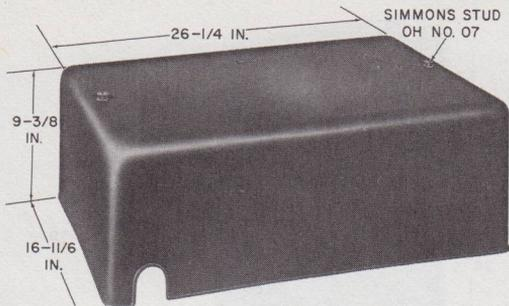

Fig. 28—117A Cover
4.03 The 117A cover (Fig. 28) is designed to enclose: